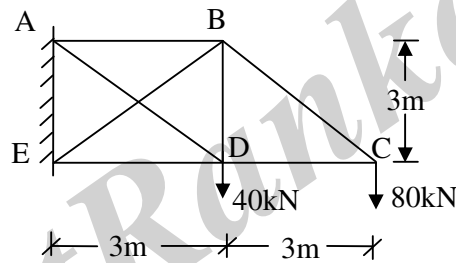

Figure 4
7. A frame is shown in figure 4, take EB as redundant. Take AE is constant for all the members. Find all member forces. Use Strain Energy method.